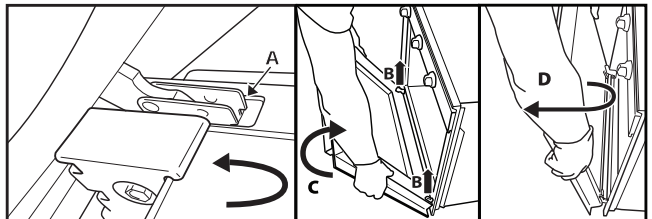

Fig. 2
3. Close the door as far as it will go (A), lift it up (B) and turn it (C) until it is released (D) (fig. 2).
2. Other accessories, such as the drip tray and baking tray, are inserted in the same way as the wire shelf (Fig. 2).